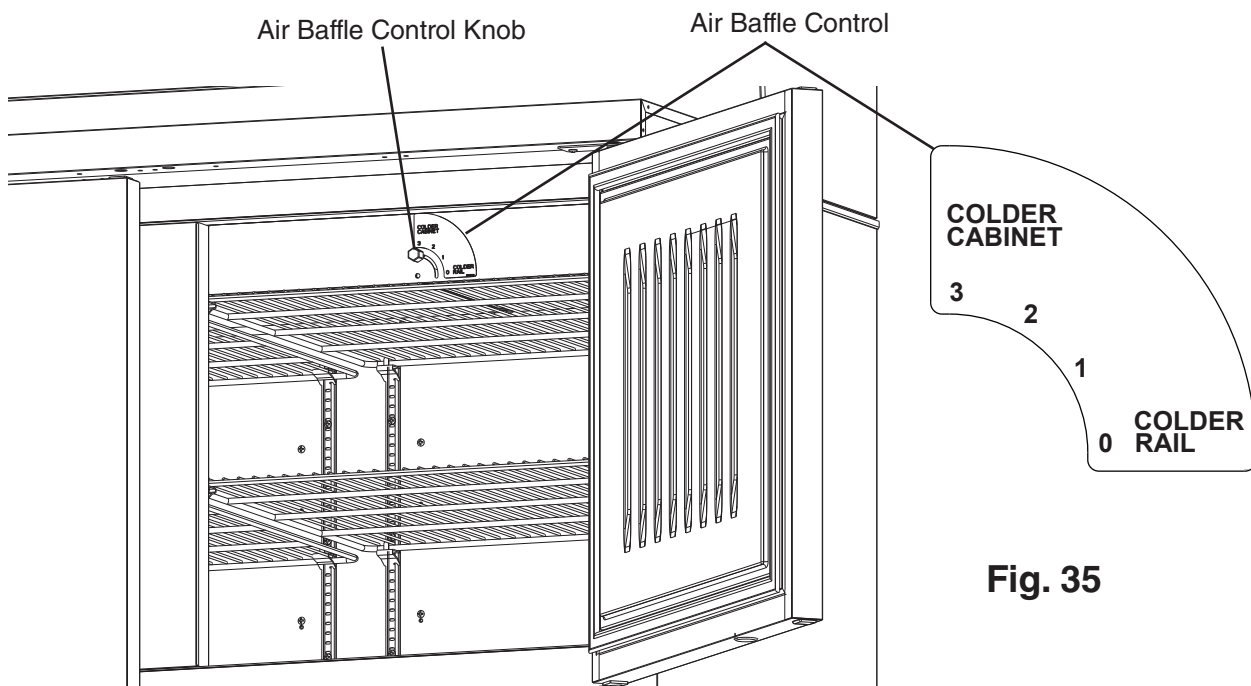

Fig. 35
- 1) Slightly unscrew the air baffle control knob located inside the cabinet. See Fig. 35.